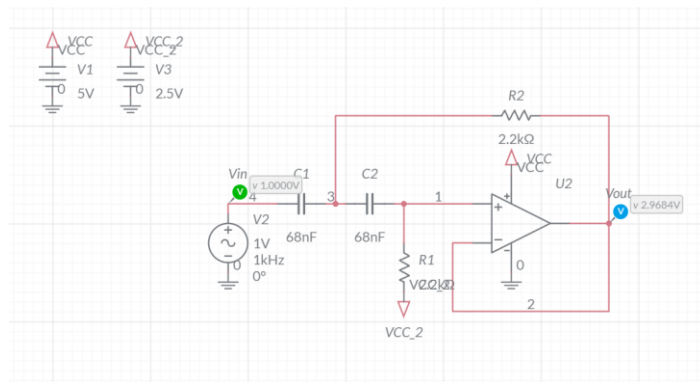

Figure 3: The high-pass filter on the audio board requires a split supply to properly center the output waveform.
Your audio board comes equipped with a 2nd order high-pass filter shown in Figure 3. This circuit is called a “high-pass filter” because it allows high frequency sine waves that are applied to the input (HPF\_IN in Figure 3) to pass through to the output (HPF\_OUT in Figure 3) largely unchanged, hence “high-pass”. However, when you apply a low frequency waveform to the input, it will emerge from the output with a much smaller amplitude. What constitutes “high” and “low” frequency is given by the corner frequency, which is in turn is determined by the component values in the circuit.
The presence of the  $V_{CC}/2$  voltage to the resistor R1, properly biases the op amp output to half the supply voltage  $V_{CC}$ . On your audio board,  $V_{CC}$  is set to 5V, and the 2.5V Zener diode provides the  $V_{CC}/2$  voltage. You will need to include a pair of DC supplies for this voltage as shown in Figure 3.
To understand the behavior of our high-pass filter, let's construct the circuit in Figure 3 using MultiSim Live. Use the components and values given in the figure. In case you need it, here is the parts list from Multisim Live.
Since our op amp in Figure 3 is powered from a single rail, we may have issues with signals that have no DC bias. Let's see what the high-pass filter does with an AC input with no DC bias. To do this, make the following changes to the AC source and simulation. To edit the AC source properties, double click on the source and edit the fields in the properties pull-out.
The corner frequency of our 2nd order high-pass filter is the frequency where the attenuation is -6dB. Numerically, this frequency is given by the following equation. Note the component references refer to the components in Figure 3.
- 2) Given the equation above and the component values in Figure 3, what is corner frequency of the low-pass filter on the audio board?
Your audio board comes equipped with a band-pass filter shown in Figure 3. This circuit is called a “band-pass filter” because it allows a band sine wave frequency to pass through largely unchanged, hence “band-pass”. However, when you apply a low or high frequency waveform to the input, it will emerge from the output with a much smaller amplitude. What constitutes “high” and “low” frequency is determined by the component values in the circuit.